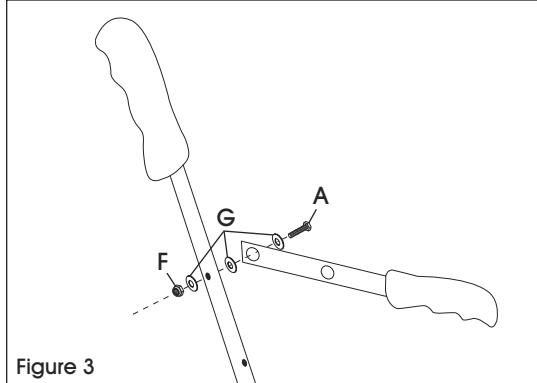

Figure 3
4. Attach hand lever to handle by aligning holes and securing with one bolt (A), three washers (G) and one nut (F). (See Figure 3)